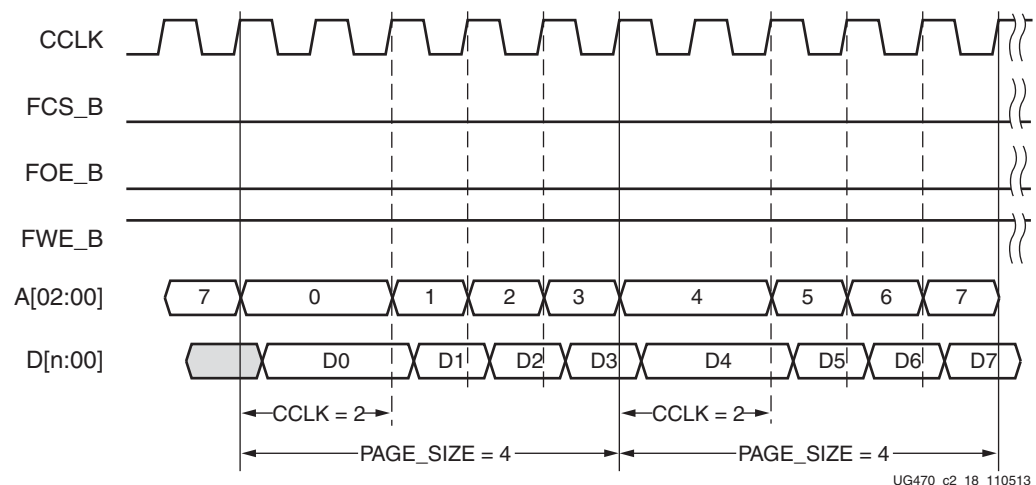

Figure 2-19: BPI Waveforms (Page Size = 4 and First Access CCLK = 2)
The sequence of page-mode operation is controlled by the 7 series FPGA bitstream. After an FPGA reset, the default page size is 1, the first access CCLK is 1, and the master CCLK is running at slowest default frequency. The COR0 register contains master CCLK frequency control bits (see Configuration Options Register 0 \(01001\), page 115). The COR1 register contains BPI flash page mode control bits (see Configuration Options Register 1 \(01110\), page 118). After the COR1 register is programmed, the BPI address timing switches at the page boundary as shown in Figure 2-19. When the SWITCH command is received, the master CCLK switches to a user-desired frequency, using it to load the rest of the configuration. See the BitGen section of UG628, Command Line Tools User Guide for details on BitGen options.
Notes related to Figure 2-19:
1. Figure 2-19 shows BPI mode, a page size of 4, and a first access CCLK of 2.